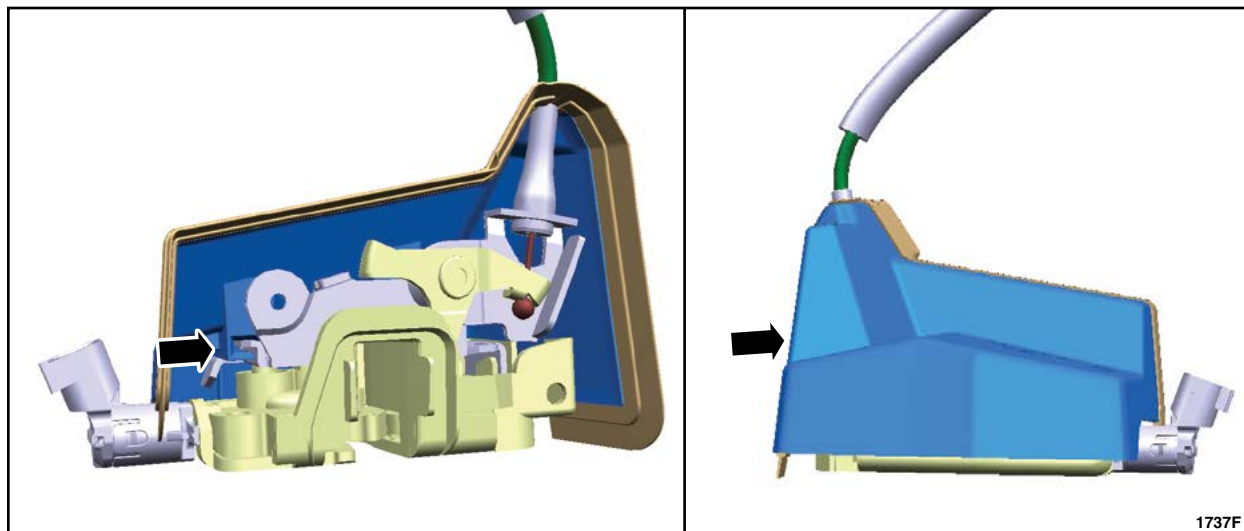

FIGURE 17
Note: If the vehicle has previously had a rear lower door latch replaced, it may already have the latest level latch water shield installed. If the Super Cab rear lower door latch has a water shield installed as shown in Figure 17, then installation of a *new* water shield is not required.
9. Install a *new* door latch water shield onto the lower rear door latch. See Figure 17.